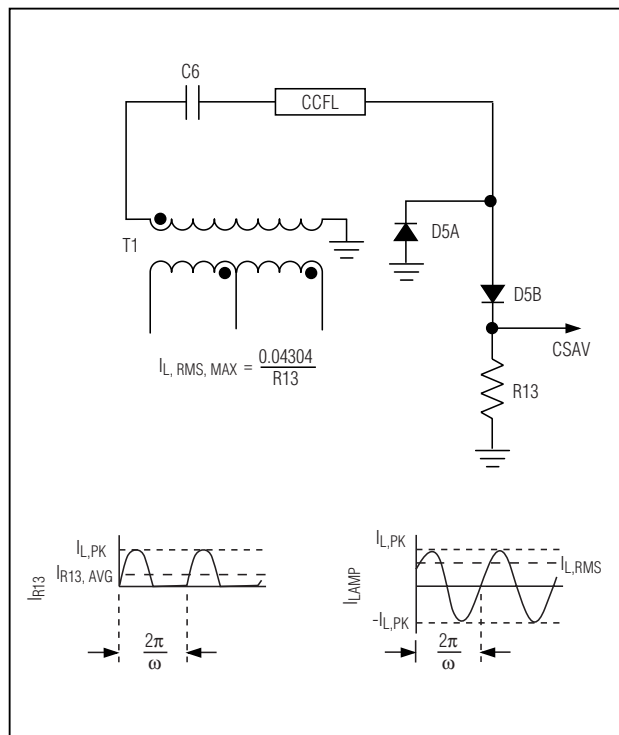
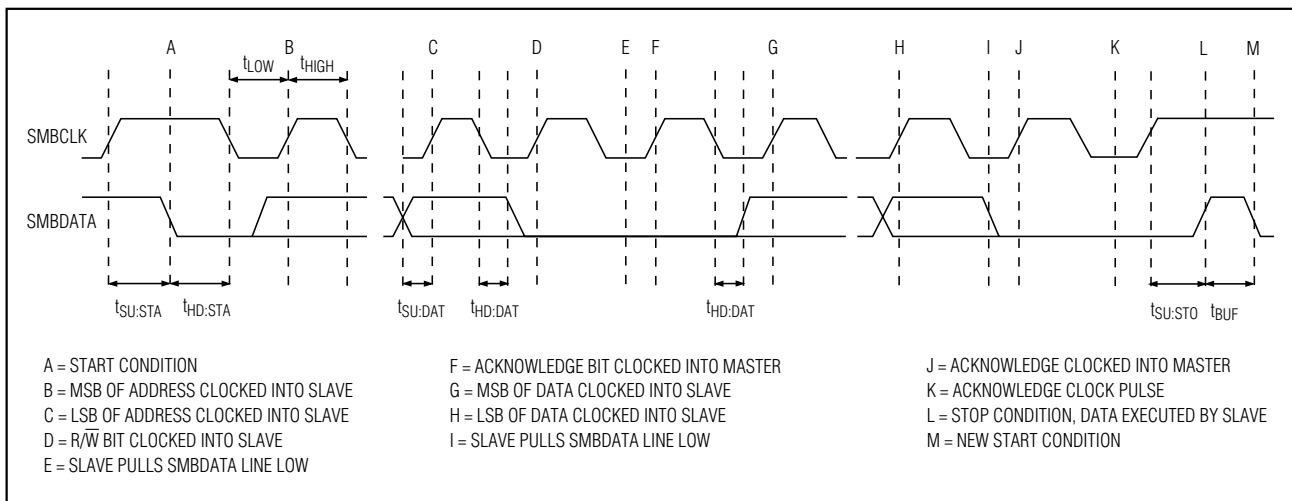

Figure 10. Current-Sense Waveforms
Figure 12. SMBus Write Timing
The MAX1739/MAX1839 regulate the average current through the CCFL. The current is sensed through the sense resistor (R13) at CSAV. The voltage at CSAV is the half-wave rectified representation of the current through the lamp (Figure 10). The MAX1739/MAX1839 regulate the average voltage at CSAV ($I_{R13,AVG} \times R13$) and are controlled by either the analog interface or the SMBus interface. To set the maximum lamp current, determine R13 as follows:
Communication starts with the master signaling the beginning of a transmission with a START condition, which is a high-to-low transition on CRF/SDA while CTL/SCL is high. When the master has finished communicating with the slave, the master issues a STOP condition (P), which is a low-to-high transition on CRF/SDA while CTL/SCL is high (Figures 10, 11). The bus is then free for another transmission. Figures 12 and 13 show the timing diagram for signals on the 2-wire interface. The address byte, command byte, and data byte are transmitted between the START and STOP conditions. The CRF/SDA state is allowed to change only while CTL/SCL is low, except for the